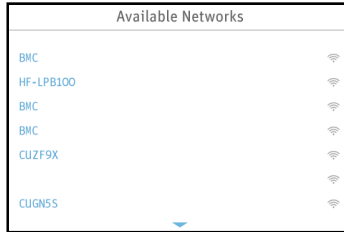
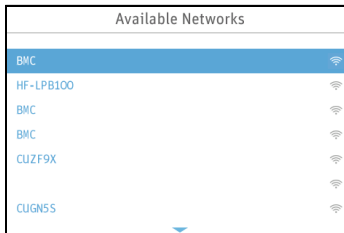

Fig. 15-7
Fig. 15-8
(3) The **WiFi** setup interface displays a certain number of available WiFi networks in a random order, as shown in Fig. 15-7. If a page turning symbol  appears below the WiFi network list, it indicates that when the cursor is on the last WiFi network on that page, the user can turn **the Knob**  to the right to see the remaining WiFi networks, as shown in Fig. 15-8. If the desired WiFi network is not listed, disconnect the device from the power supply, connect it to the power supply again, and then repeat steps (1) (2) to search for WiFi networks. Keep searching until the desired WiFi network is found.